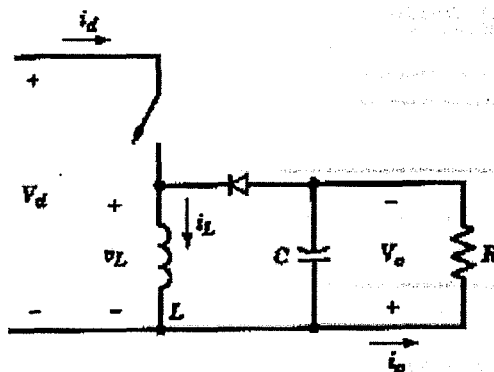

Figure Q7
- Q7.** The buck boost converter as shown in Figure Q7 has $V_d= 24V$, $V_o=36V$ and a load resistance of 10Ω . The switching frequency of the converter is $60kHz$.